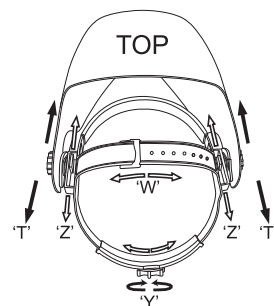

Fig.1
- Loosen the block nut on either side of the helmet and slide it nearer or further from your face. (See adjustment "Z" in fig.1). It is important that your eyes are each the same distance from the lens. Otherwise the darkening effect may appear uneven. Re-tighten the block nut when complete the adjustment.
- Adjusting view angle position (see fig.1)
- The overall circumference of the headband can be made larger or smaller by rotating the knob on the back of the headband. (See adjustment "Y" in fig.1) This can be done while wearing the helmet and allows just the right tension to be set to keep the helmet firmly on the head without it being too tight.
- If the headband is riding too high or too low on your head adjust the strap which passes over the top of your head. To do this release the end of the band by pushing the locking pip out of the hole in the band. Slide the two portions of the band to a greater or lesser width as required and push the locking "W" through the nearest hole (See adjustment "W" in fig.1).